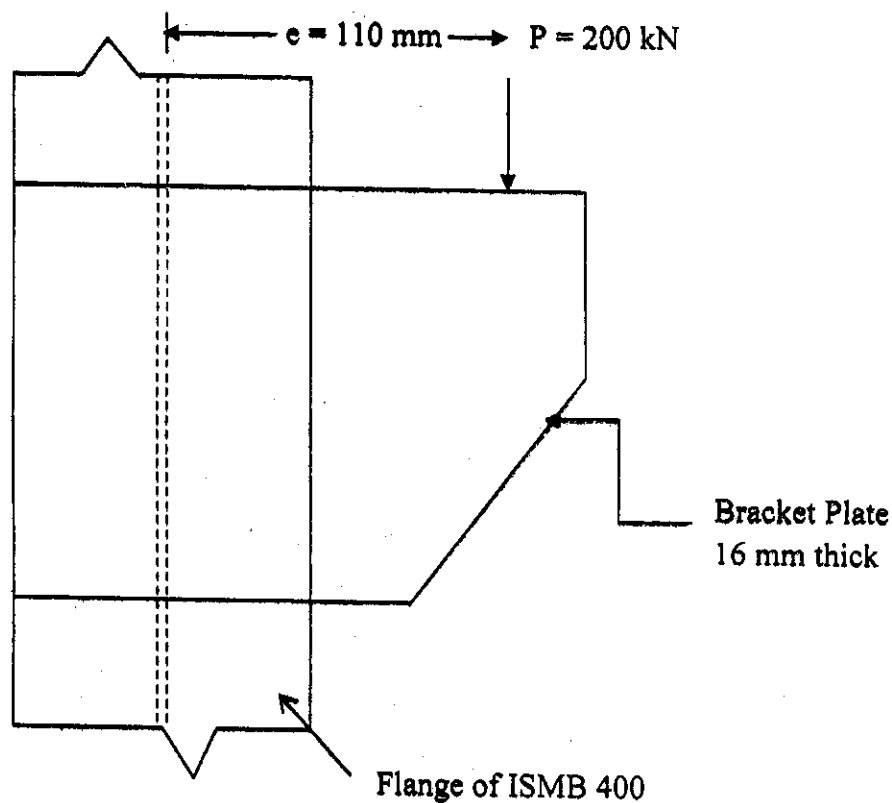

Fig. 1: Schematic Diagram of the Bracket
- b) Design a double bracket connection as shown in Fig.1, subjected to a total load of 200 kN at an eccentricity of 110 mm. Use 22 ϕ power driven field rivets. *Permissible stress for shear and bearing are 100 MPa and 300 MPa.* 20